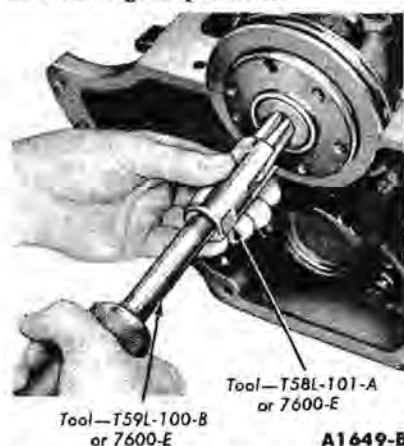

FIG. 64—Clutch Pilot Bushing Removal
17. Remove the flywheel and rear cover plate. Remove the clutch pilot bushing (Fig. 64).